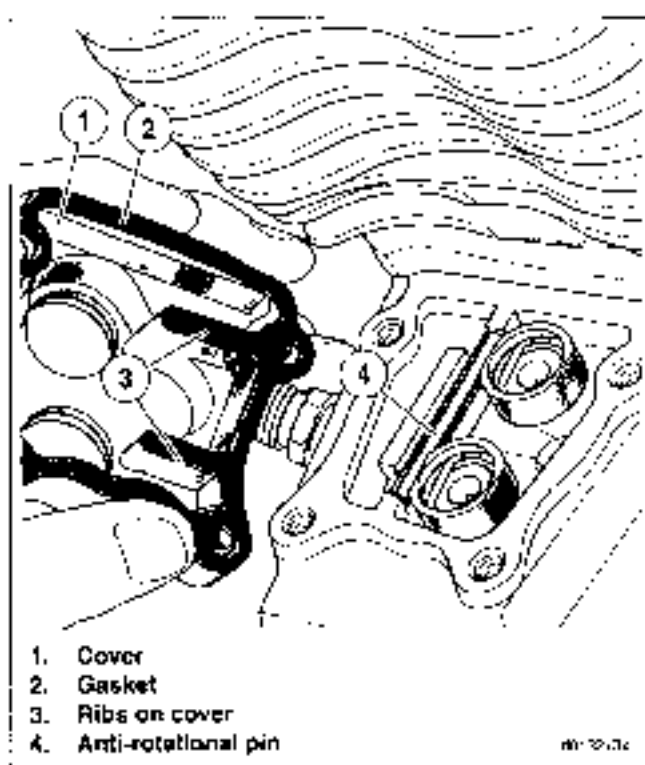

Figure 3-44. Installing Lifters
2. See Figure 3-44. Place the anti-rotational pin (4) on the machined flat between the blocks cast into the crankcase.
3. Install a new lifter cover gasket (2) aligning the holes in the gasket with those in the cover (1).